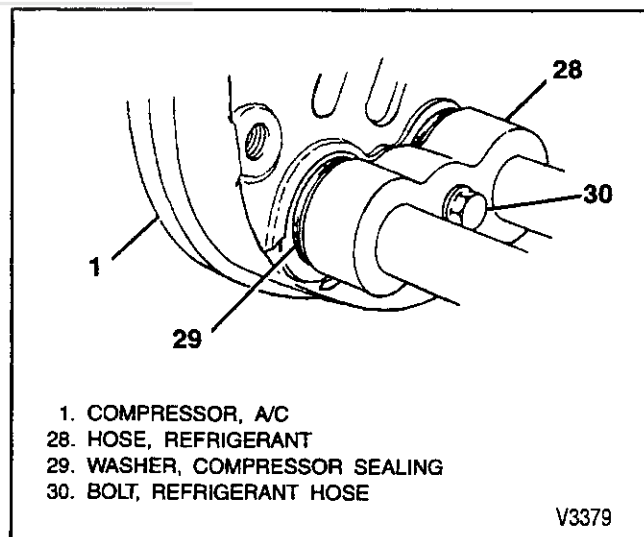

Figure 25—Sealing Washer Installation (2 of 2)
2. Install hose block to the compressor making sure the sealing washers are seated within the compressor machined surfaces (figure 25).
3. Hold block in place, hand tighten attachment bolt (30).
- Bolt (30) to 34 N.m (25 lbs. ft.).